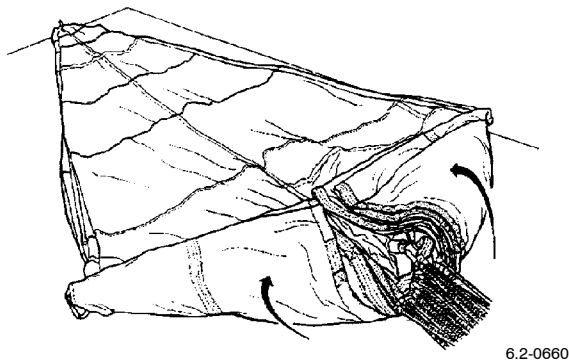

Figure 10. Folding The Canopy Skirt Gores Inboard
q. Fold the LH and RH groups of gores at the skirt inboard and upward to the center by grasping the skirt hems at the corners and rotating inboard (Figure 10).